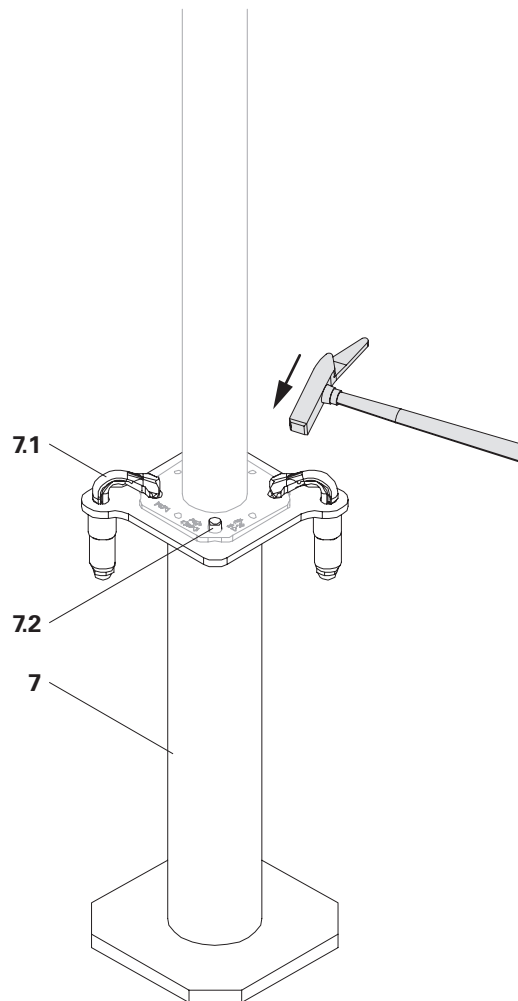

Fig. A3.01
1. Place Slab Prop on the Base MP 50 (7) so that the two Centring Pins (7.2) are securely positioned in the holes of the base plate.
- (Fig. A3.01)